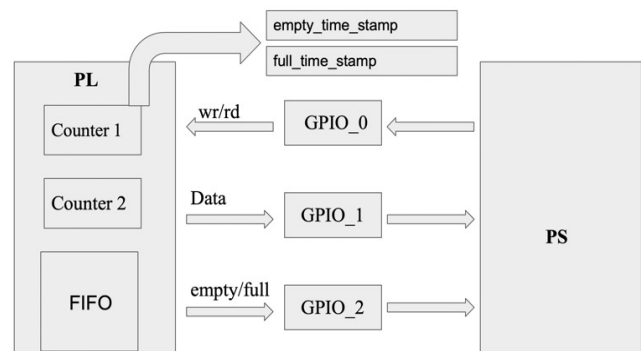
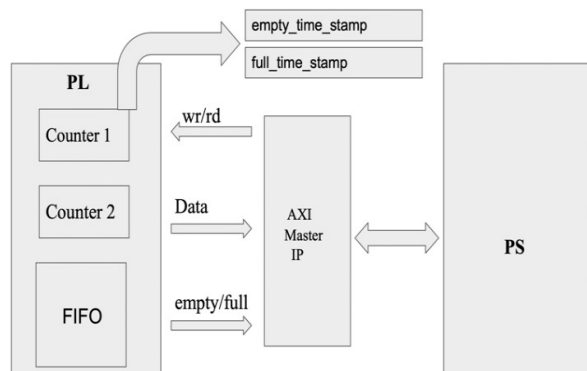

Fig. 1 Block Diagram of the Data transfer using AXI GPIO
Fig. 7 Block Diagram of the Data transfer using AXI Master IP
- In Fig 1 PL block contains two counters named counter1 and counter2, which required a clock for running, so for that, these fabric clocks will be used.
- In Fig 1 PL block contains one FIFO, used for data transfer between PL and PS.
Fig 7 shows the Block Diagram of data transfer using AXI Master IP between PL and PS. In AXI GPIO Data transfer method it consumes more CPU time, instead of using three GPIOs in Fig 1 if we replace those GPIOs with AXI master IP, then we can transfer data with high speed with less involvement of the CPU. The components used in the AXI GPIO Data transfer method, same components, and logic used in AXI master IP method. But the main difference is, here AXI